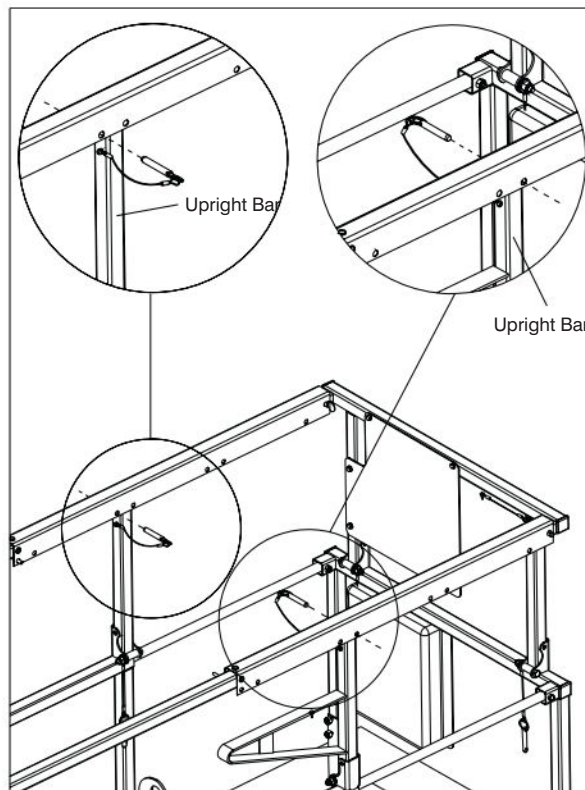

Figure 2-15. Variable Position Manual Extension Platform
2. Upon extension or retraction, reinsert locking pins. Insert pin on one side of aerial platform in front of upright bar and the pin on the other side of aerial platform behind the upright bar to prevent accidental movement, in either direction, of manual extension platform during travel or transport. Refer to Figure 2-15 for a configuration example.